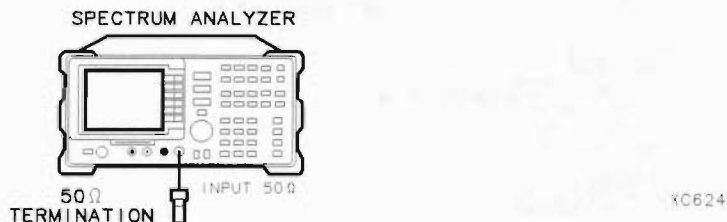

Figure 2-80. Residual Response Test Setup
1. Connect the termination to the spectrum analyzer input as shown in Figure 2-80.
4. Connect the 300 MHz CAL OUT to the RF INPUT as shown in Figure 2-80
10. Reconnect the termination to the spectrum analyzer input as shown in Figure 2-80.